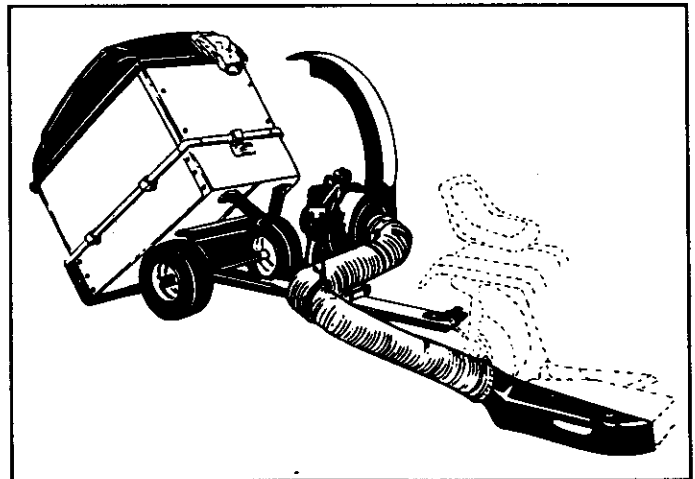

FIGURE 33
- Release the latch holding cart down to the tongue by pulling up on the latch lever. See figure 33.